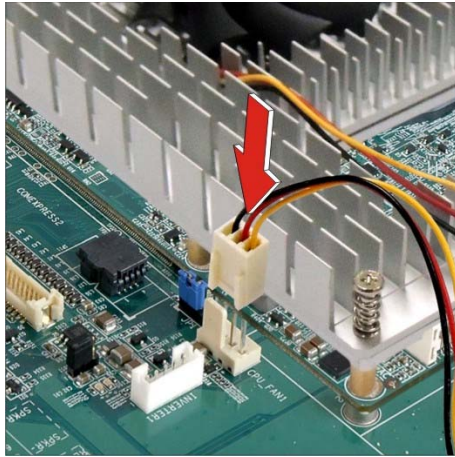

Figure 4-8: Connect to the CPU Fan Connector on the Baseboard
- Step 5:** Connect the cooling kit fan cable to the CPU fan connector on the baseboard (**Figure 4-8**).